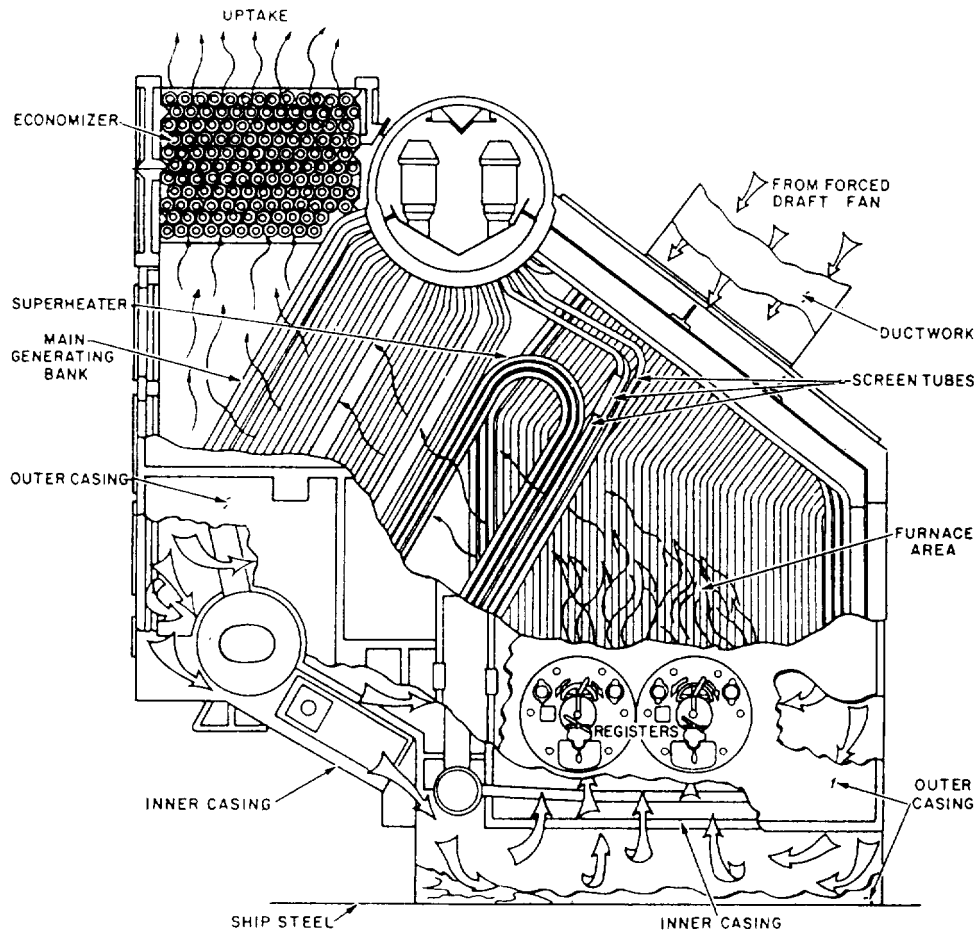
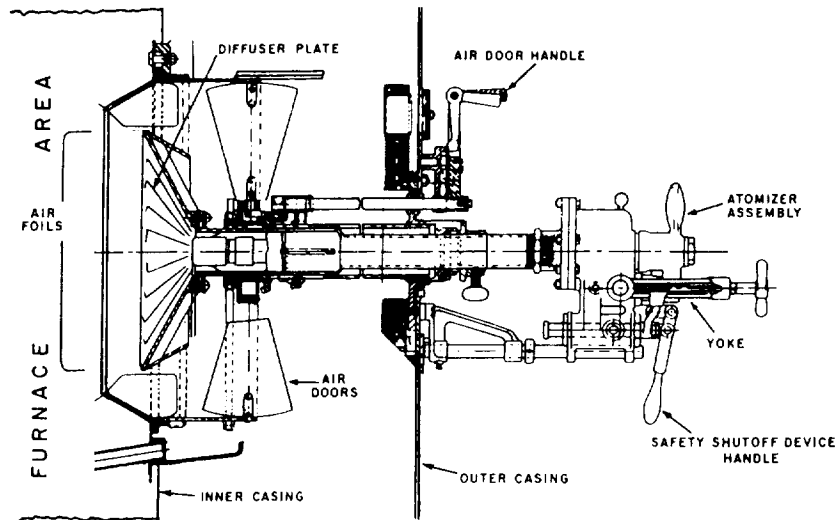

Figure 4-12.—Combustion air and gas flow.
Figure 4-13.—Fuel-oil burner assembly.
Air is forced into the furnace by a forced draft blower. The forced draft blower is a large volume fan that can be powered by an electric motor or a steam turbine. The forced draft blower blows air into the outer casing of the boiler (fig. 4-12). The air then travels between the inner casing and outer casing to the boiler front where it is forced into the furnace through the air registers. The air registers are part of the fuel-oil burner assembly that consists of four main parts: air doors, a diffuser, air foils, and the atomizer assembly. Figure 4-13 shows a side view of a fuel-oil burner assembly.
**AIR REGISTERS.**— The air entering the furnace through the air registers mixes with a fine fuel-oil spray through the atomizer. Figure 4-13 shows the arrangement of an air register in a fuel-oil burner assembly. The air doors are used to open or close the register, as necessary. They are usually kept either fully opened or fully closed. When the air doors are open, air rushes in and is given a whirling motion by the diffuser plate. The diffuser plate causes the air to mix evenly with the atomized oil in such a way that the flame will not blow away from the atomizer (atomizers are